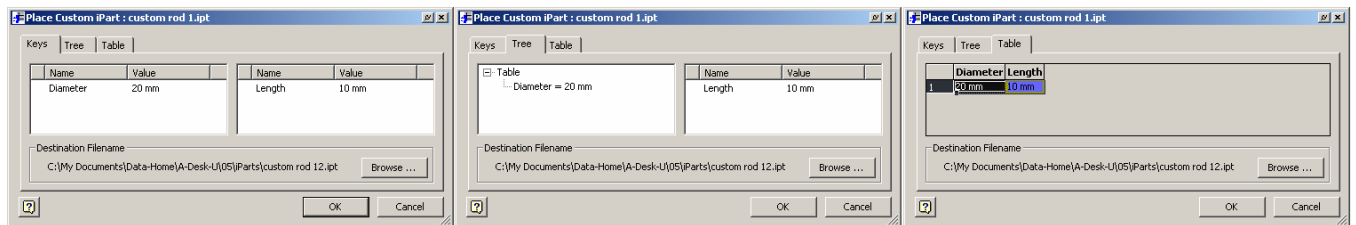

Figure 8: the 3 tabs of thePlace Custom iPart dialogue box
- This time the Place Custom iPart dialog box appears. Figure 8 shows its three tabs.